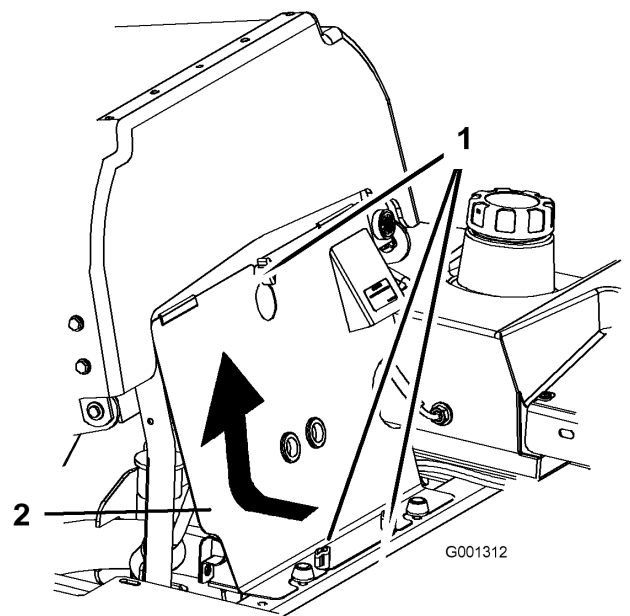

Figure 36
1. Tilt the seat forward and remove the front engine panel (Figure 36).